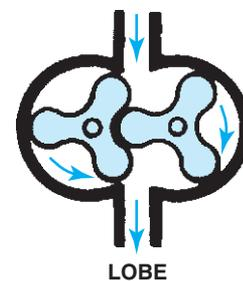

FIGURE 19-5 A roots-type supercharger uses two lobes to force the air around the outside of the housing into the intake manifold.
- Roots-type supercharger.** Named for Philander and Francis Roots, two brothers from Connersville, Indiana, who patented the design in 1860 as a type of water pump to be used in mines. Later it was used to move air and is used today on two-stroke cycle Detroit diesel engines and other supercharged engines. The **roots-type supercharger** is called a **positive displacement** design because all of the air that enters is forced through the unit. Examples of a roots-type supercharger include the GMC 6-71 (used originally on GMC diesel engines that had six cylinders each with 71 cu. in.) and Eaton used on supercharged 3800 V-6 General Motors engines. See Figure 19-5.